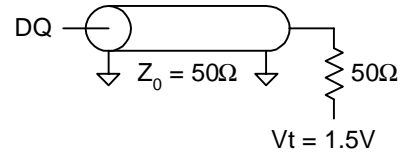

Fig. 1 OUTPUT LOAD EQUIVALENT
Output load	See Figures 1
- Test conditions as specified with the output loading as shown in Fig. 1 unless otherwise noted
- Capacitance derating applies to capacitance different from the load capacitance shown in Fig. 1 or Fig. 1A.